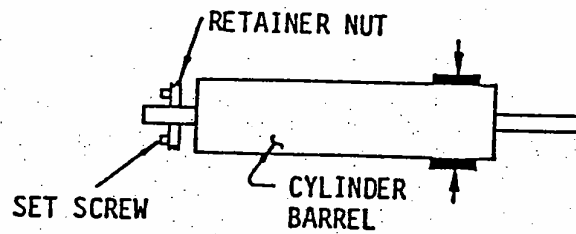

Fig. 9.
6. Thread the retainer nut into the end of the cylinder barrel. Use the set screws and a screwdriver to tighten the nut securely. See Fig. 9.